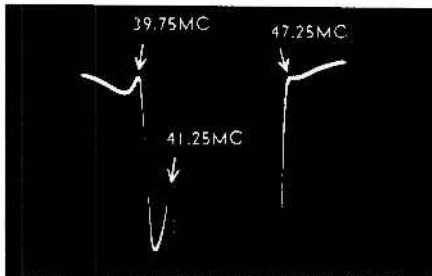

Fig. 17 Exploded View of Traps.
6. Adjust the 47.25 Mc, 41.25 Mc (Top slug of 1st IF transformer) and 39.75 Mc traps for minimum marker amplitude, See Fig. 17. It can be seen that maximum oscilloscope gain has been used and as a result the top of the response curve has been "run off" the oscilloscope screen in order to see a "blow-up" of the trap slots.